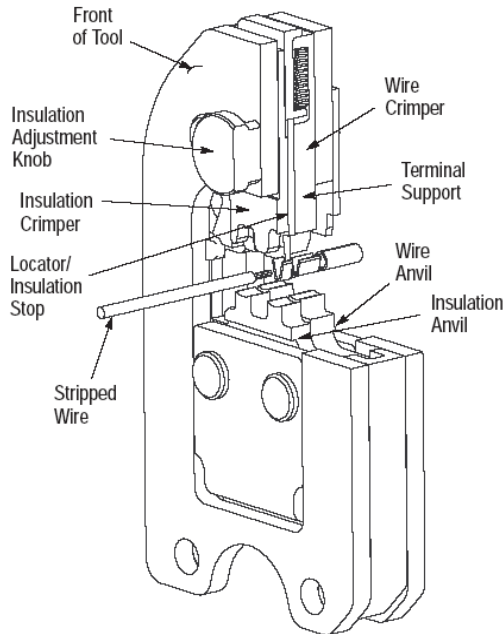
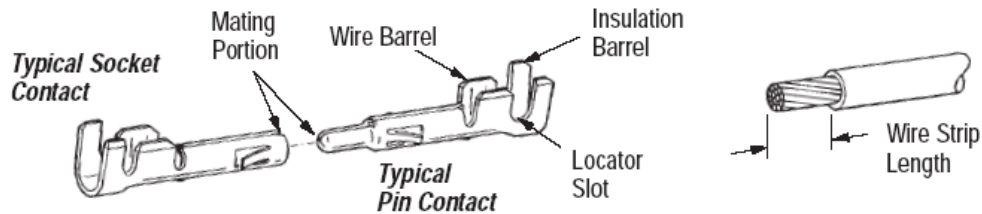

Figure 2: Tyco Crimping Tool
Figure 3: Crimp Overview
On many tools, the insulation barrel crimp height is regulated by the Insulation Adjustment Knob (Figure 2). The insulation crimp should hold the insulation firmly without cutting into it. To determine the proper insulation crimp setting, test crimp a loose piece contact using the setting which corresponds to the insulation diameter:
- 4.2.10 Position the contact between the crimpers so that the locator/insulation stop enters the slot in the contact. The wire barrel should butt against the locator/insulation stop. Refer to Figure 2 and Figure 3.